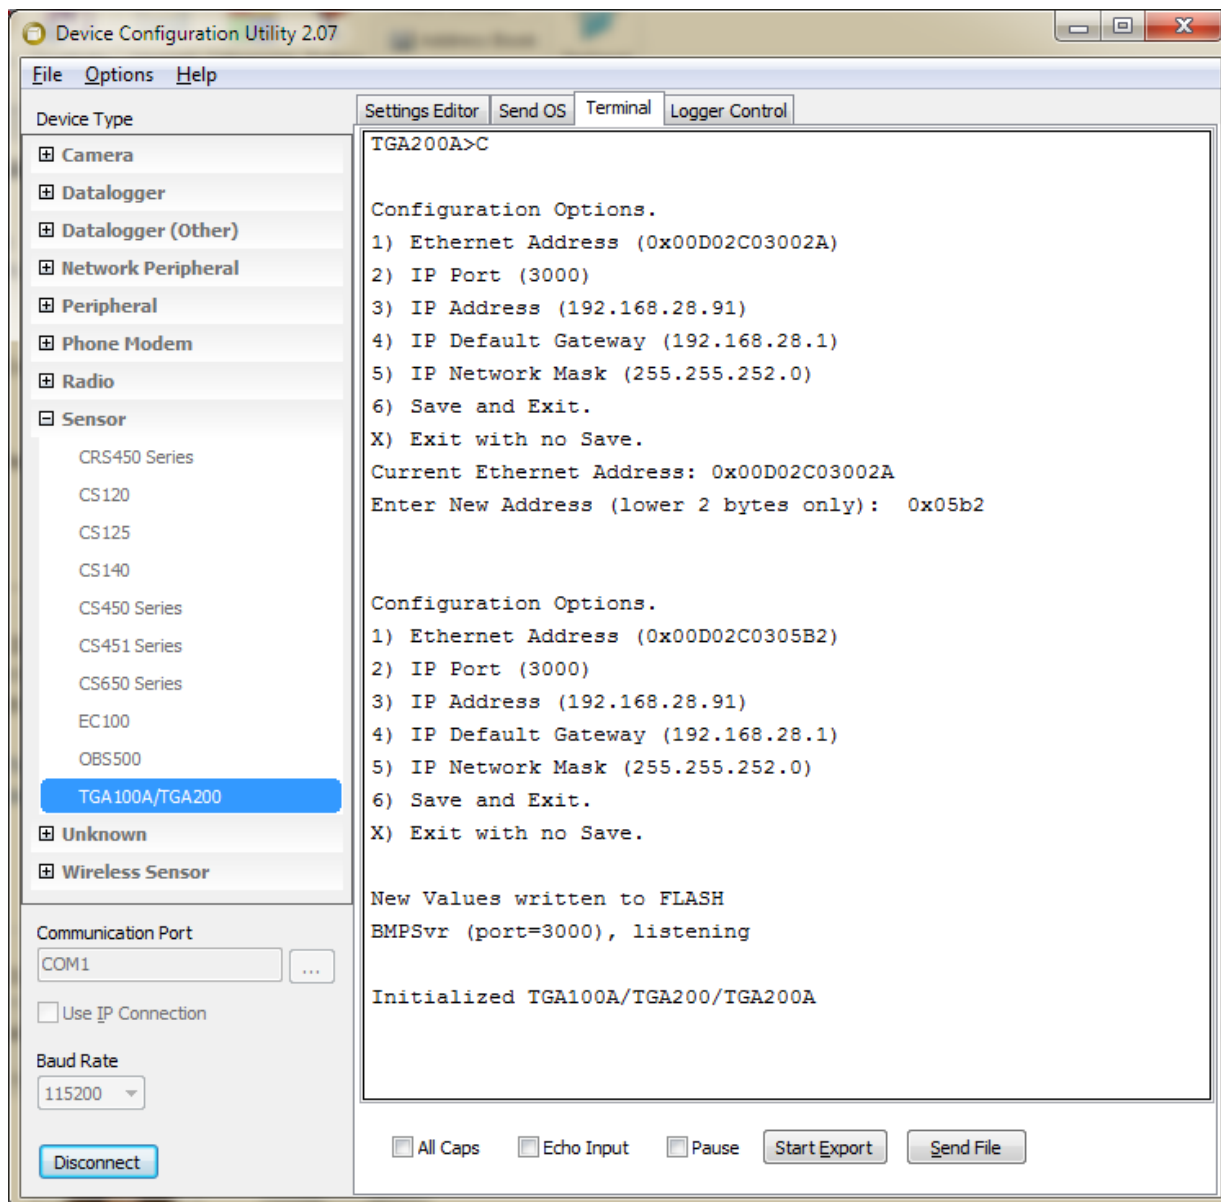

FIGURE 6-23. Device Configuration Utility Terminal tab
5. Select *Terminal* mode and then uncheck the **All Caps** box at the bottom of the window as shown in in FIGURE 6-23.